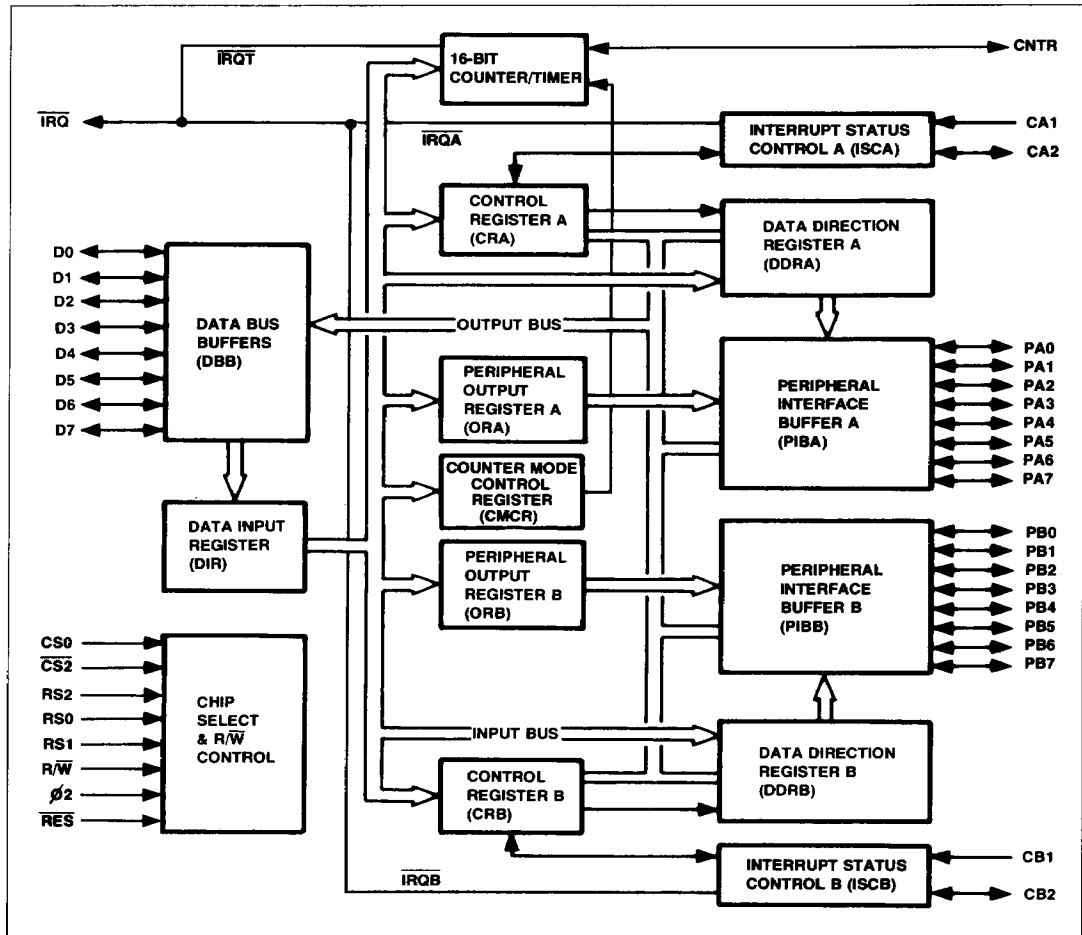

Figure 3. R65C24 PIAT Block Diagram
The R65C24 PIAT is organized into three independent sections referred to as the A Side, the B Side, and a Counter/Timer. The A Side and B Side each consist of a Control Register (CRA, CRB), Data Direction Register (DDRA, DDRB), Output Register (ORA, ORB), Interrupt Status Control (ISCA, ISCB), and the buffers necessary to drive the Peripheral Interface buses. Data Bus Buffers (DBB) interface data from the two sections to the data bus, while the Data Input Register (DIR) interfaces data from the DBB to the PIAT registers. Chip Select and R/W control circuitry interface to the processor bus control lines. The Counter/Timer consists of a 16-bit counter; i.e., an 8-bit Upper Counter (UC) and 8-bit Lower Counter (LC), an 8-bit Upper Latch (UL), an 8-bit Lower Latch (LL), an 8-bit Snapshot Latch (SL), and a Status Register (SR). A Counter Mode Control Register (CMCR) selects the Counter/Timer mode of operation. Figure 3 is a block diagram of the R65C24 PIAT.